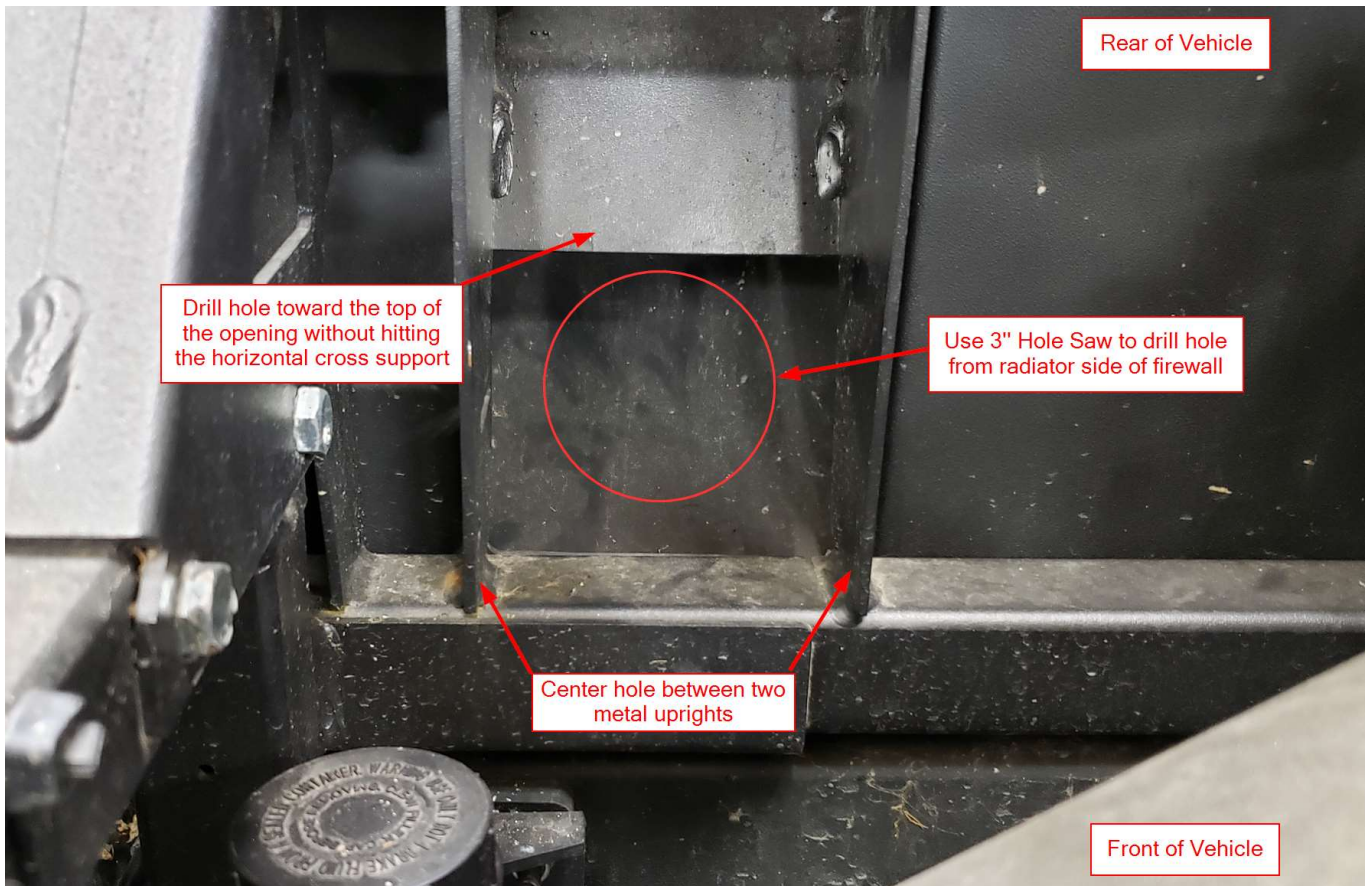

Figure 7
- c. Use the 3" Hole Saw to drill the Air Intake Hole as shown in Figure 7. Position the hole in the middle of the two vertical metal uprights and close to the horizontal support bracket without hitting the metal. The location of this hole is not crucial.